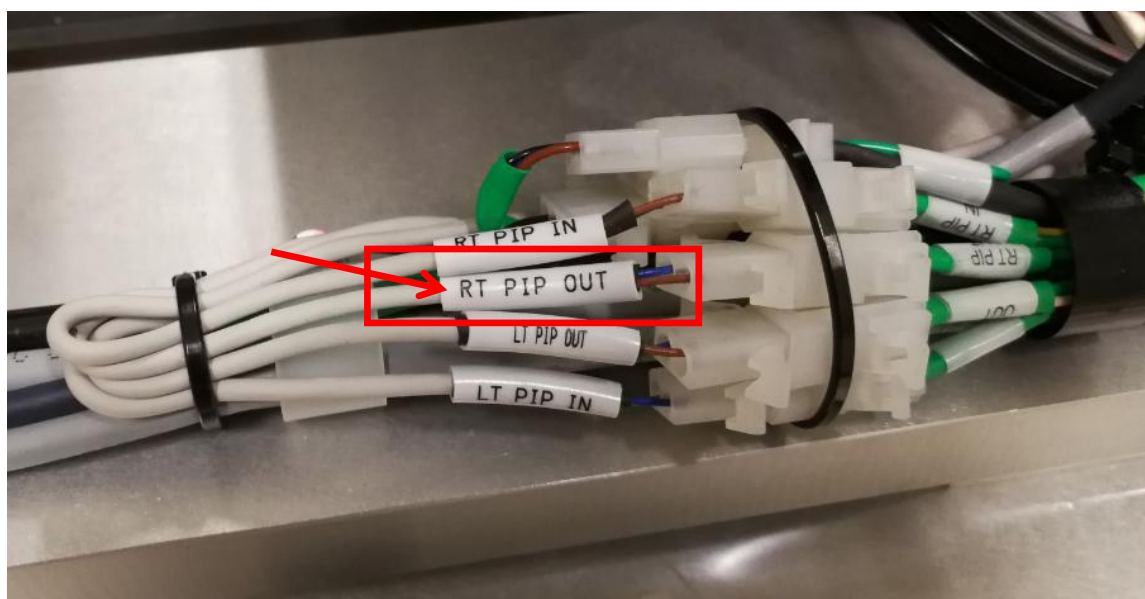

Figure 42 RT PIP Out Connector Assembly
2. Plug Right PIP Out Reed Sensor Cable Connector by refer to "RT PIP Out" as shown in Figure 42 below. Apply necessary cable tie as well